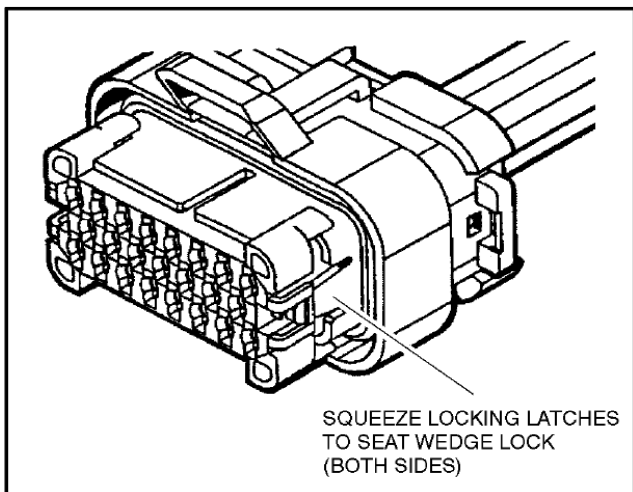

Figure 11-8. Connector Assembly Figure 3
3. After all required contacts have been inserted, the wedge lock must be closed to its locked position. Release the locking latches by squeezing them inward (See Figure 11-8).